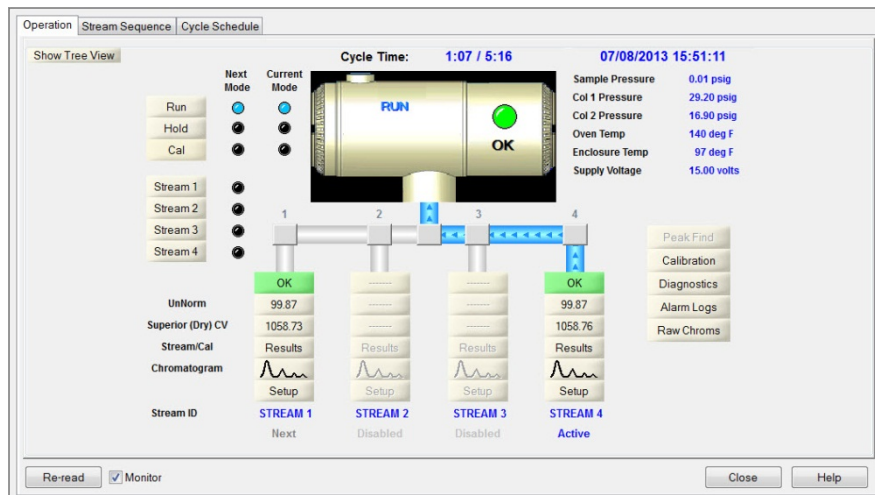

Figure 42. ABB NGC 8206 Operation
- 1) The operation screen will show which streams have been enabled and receiving data as well as the current stream being analyzed (Active). Depending on the way the sampling sequence has been configured, the streams enabled will show either enabled or next if the stream is the next to be sampled (see Figure 42). Take note of the streams that are needed for Therms integration. You may also click on the *Stream Sequence* tab to determine which streams are enabled.